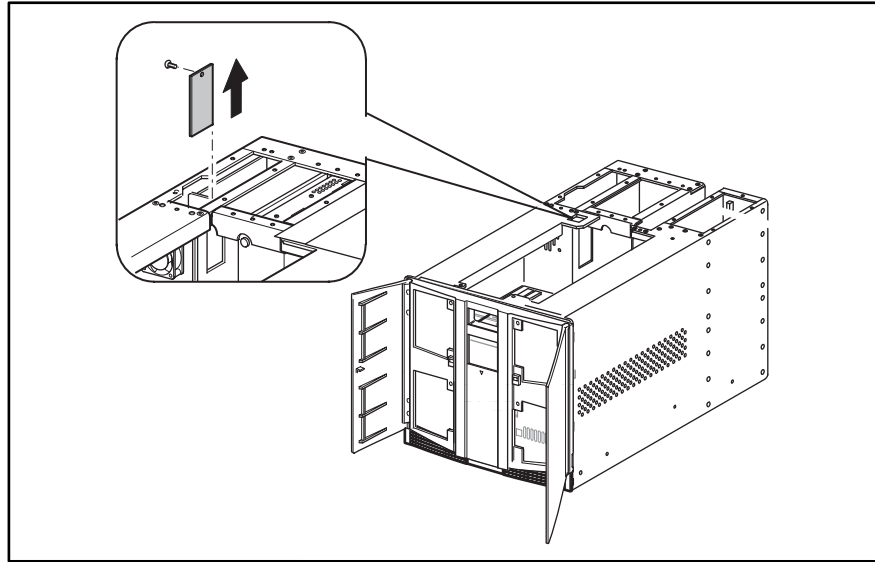

Figure 3-41: Backplane access cover
4. Remove the screw from the card cage/back plane connector access plate and lift it out of the library (see Figure 3-41.)